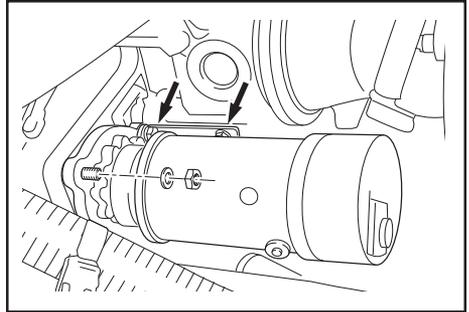

Fig. 9
3. Take notice of the brass bracket holding the starter in place (See Fig. 9).